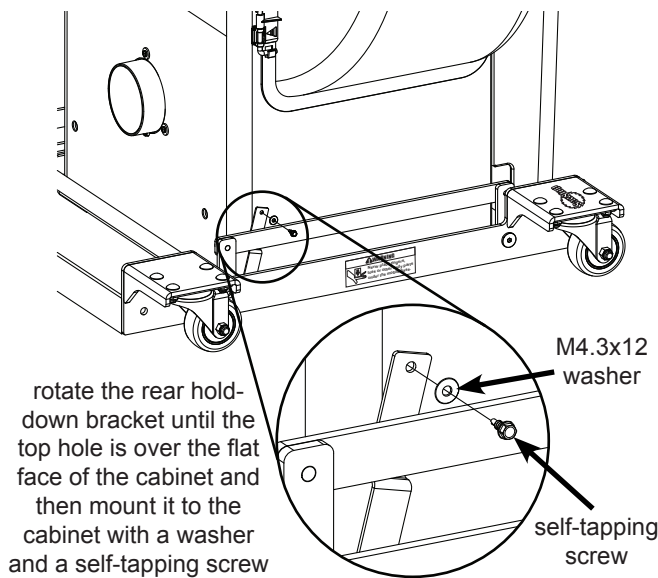

Fig. 9a
9. Locate the two self-tapping screws and the two M4.3 x 12 washers. Rotate the rear hold-down bracket until the top hole is over the flat face of the cabinet. Place one of the M4.3 x 12 washers over the end of one of the self-tapping screws and use a drill with a 1/4 inch hex drive bit to mount the rear hold-down bracket to the cabinet, as shown in Fig. 9a. There is no need to pre-drill a hole for the self-tapping screws, but be careful not to overtighten the screws or the threads in the cabinet may strip out. Now, rotate the front hold-down bracket until it is vertical and repeat the same procedure to mount it to the cabinet, as shown in Fig. 9b.